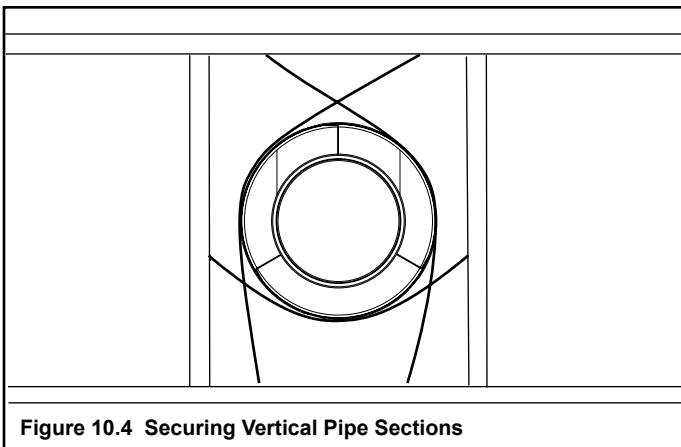

Figure 10.4 Securing Vertical Pipe Sections
- Vent support or plumber's strap (spaced 120° apart) may be used for support. See Figures 10.4 and 10.5.